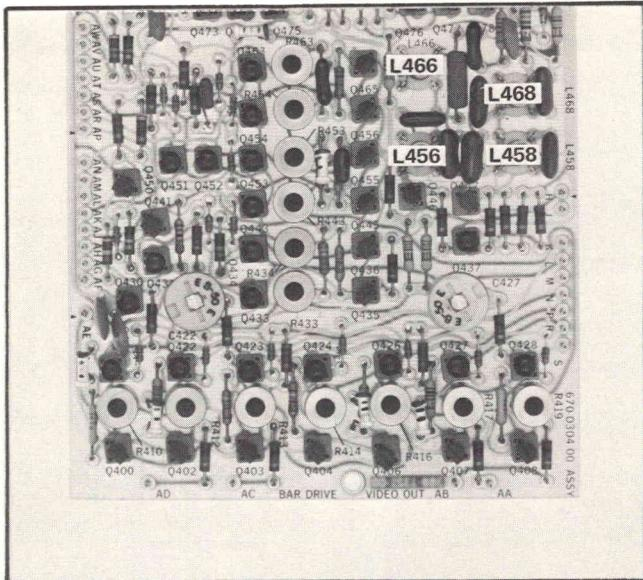

Fig. 5-28. Bar Drive and Video Out board adjustment locations.
f. **ADJUST—L466 and L456** (see Fig. 5-28) for a rise-time of 115 ns within 15% with less than 2% aberrations.
d. ADJUST—L458 and L468 (see Fig. 5-28) for the best square corner on the leading edge of the white bar with aberration less than 2% peak to peak.